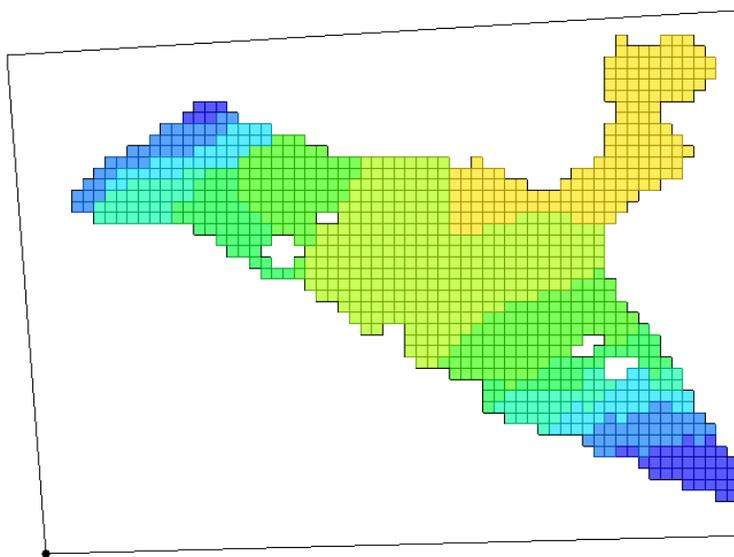

Figure 3. Creating a polygon that encompasses the model grid.
3. Create an arc that surrounds the grid. End the arc on the point you started from to form a closed polygon, as shown in Figure 3.